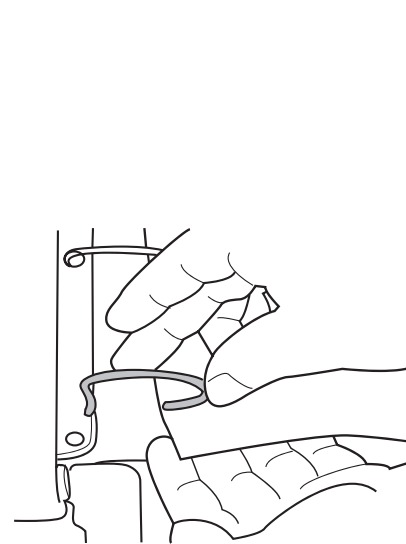

Fig.8
8. Place the seat canvas into position, then replace all of the springs on one side. Be sure to hook the curved side of each spring through the hole in the canvas (Fig.8).